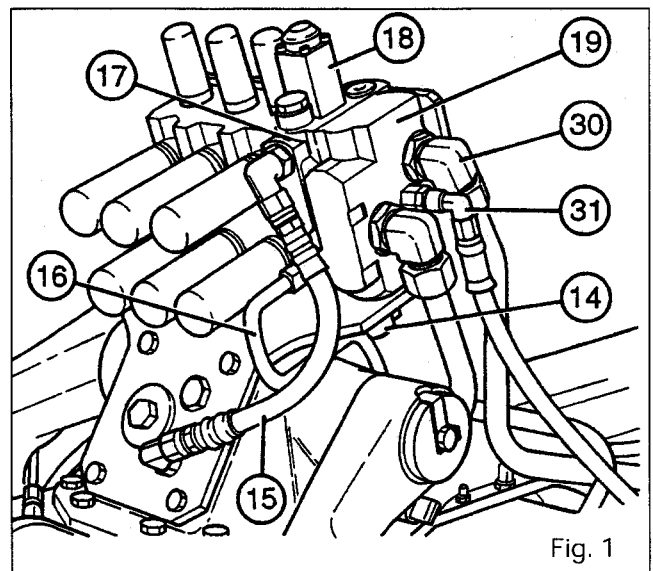

Fig. 1
Electrical section (solenoid valves) (Fig. 1)
- (14)** Lifting solenoid valve
- (18)** Lowering solenoid valve
Designation of ports**On inlet unit (19) (Fig. 1)**
- (30)** HP supply from the variable-displacement pump via the override unit or units (according to option)
- (31)** LS signal to the variable-displacement pump controller via the override unit or units
On lift control valve (17) (Fig. 1)
- (15)** Return hose to housing